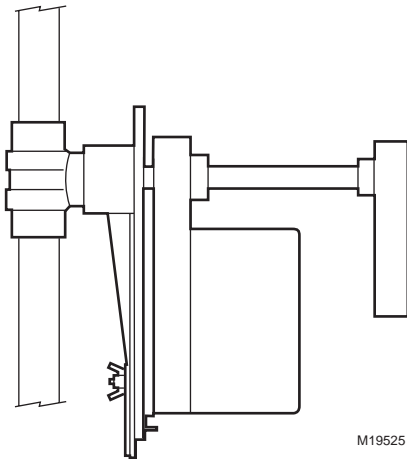

Fig. 6. Vertical valve installation.
- (1) Clockwise to increase B to AB flow.
- (2) Counterclockwise to increase A to AB flow.
6. Valve must be mounted with the actuator/bracket above the valve body. Do not install the valve with the stem below horizontal or upside down. (See Fig. 6 and 7.)